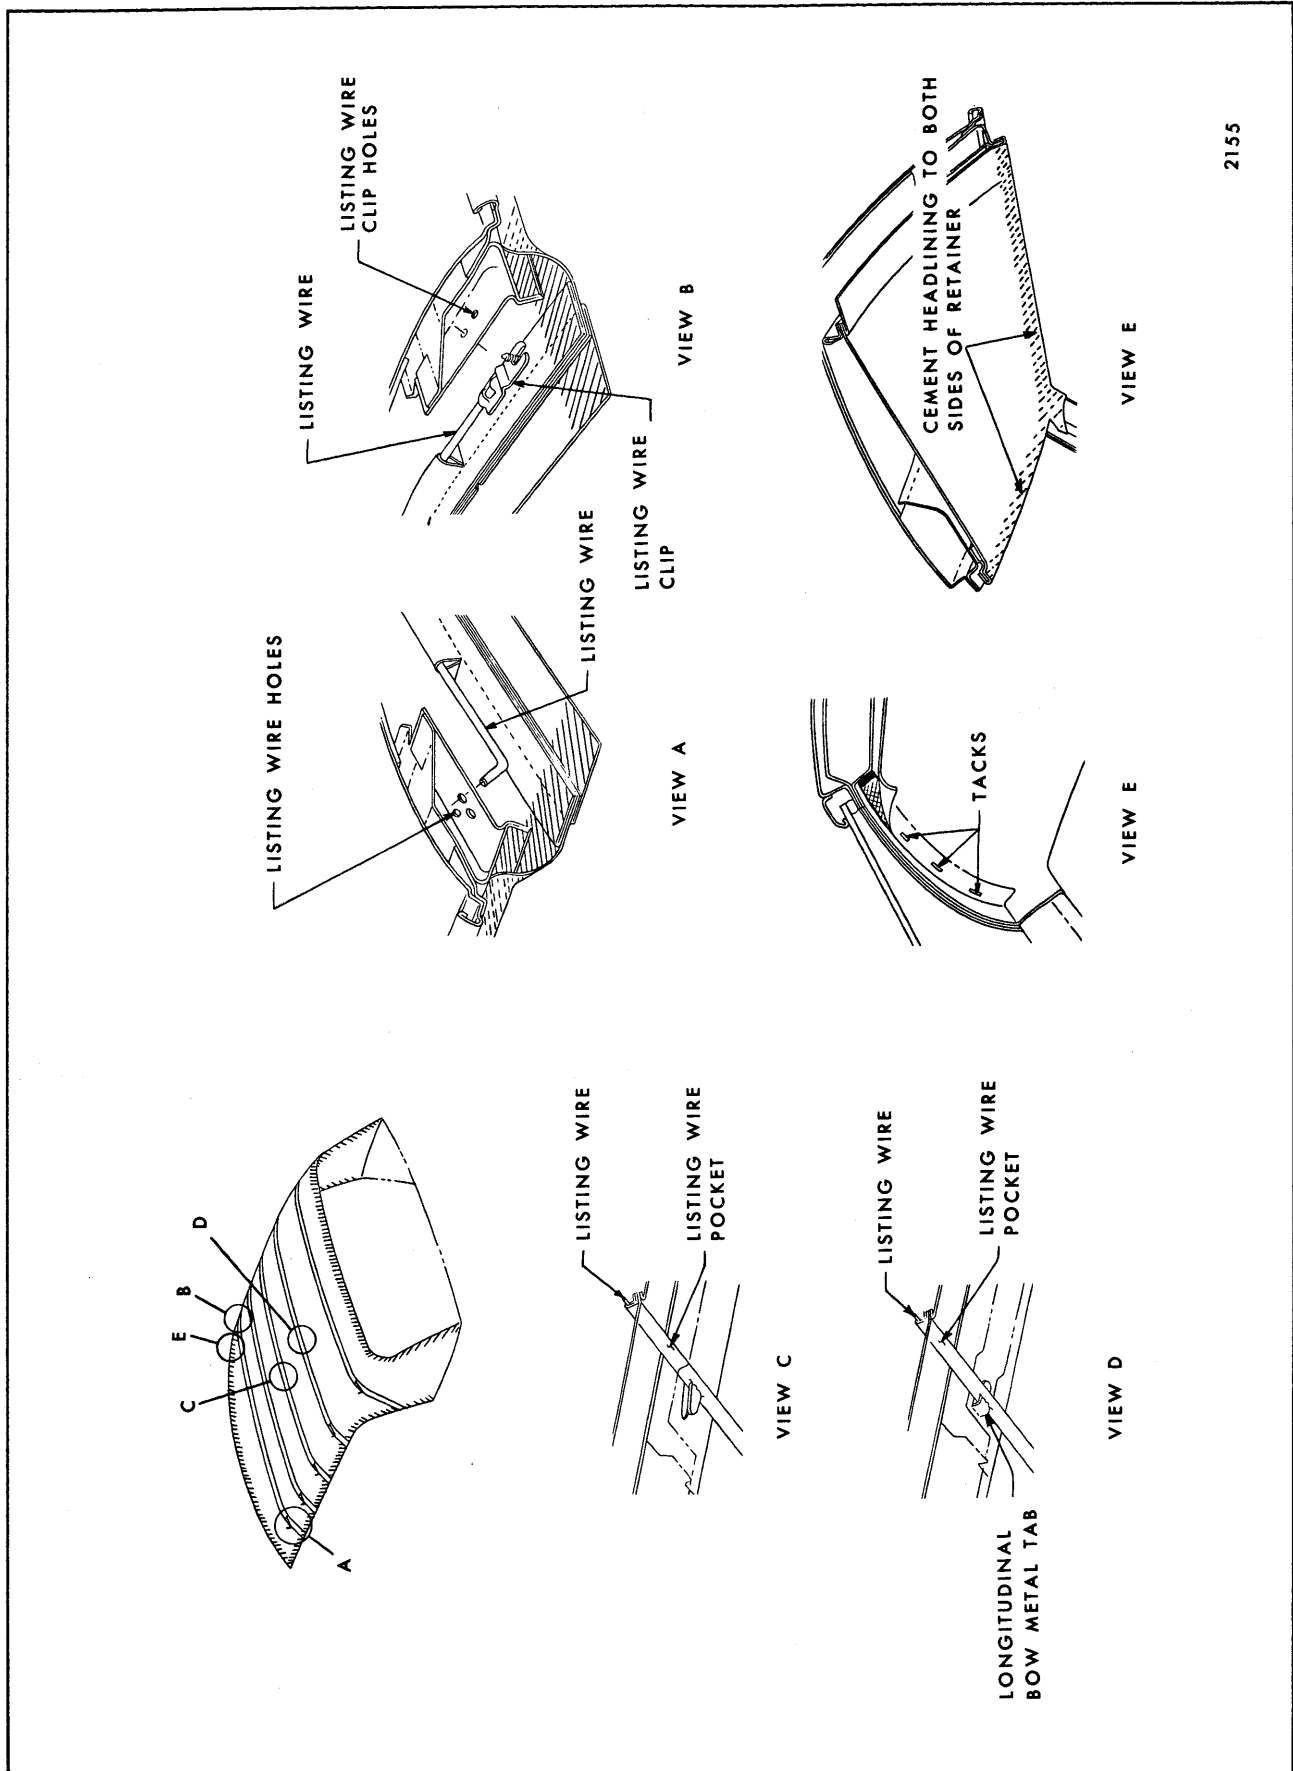
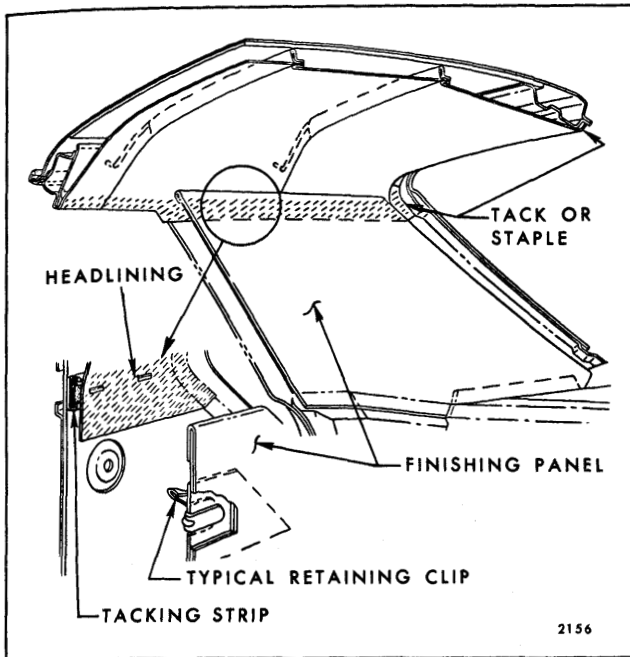
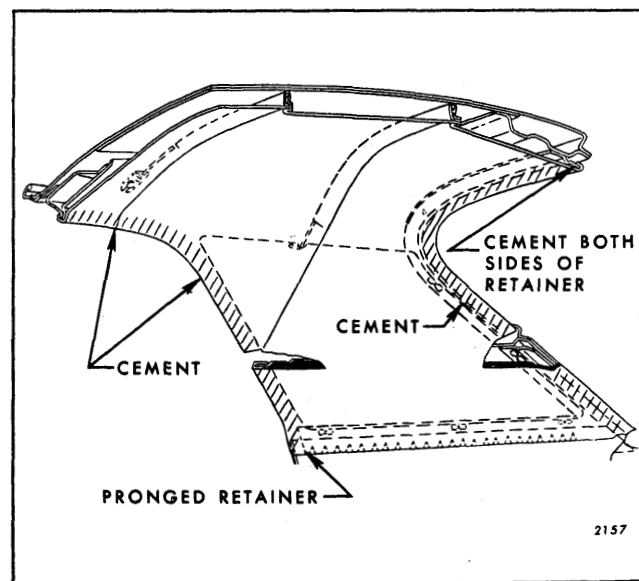

Fig. 4-1—Vinyl and Cloth Headlining Installation
Fig. 4-2—Upper Quarter Trim Installation
Fig. 4-5—Headlining Installation at Roof Extension
Depending upon the body type and style, the listing wires are attached to the side roof rails by either inserting wires directly into holes in side rail or into a clip which is screwed into the side rail. (See View "A" and "B" in Fig. 4-1.)
On all styles except Corvair equipped with a vinyl coated headlining, the listing wires are further attached to the roof panel by tabs on the front to rear longitudinal roof bow. (See View "D" in Fig. 4-1.)
Where garnish moldings are utilized the headlining is tacked or stapled in addition to being cemented at the windshield and back window or back body opening (View "E", Fig. 2155 and Fig. 4-2).
trim stick in the roof extension area (See Fig. 4-2). The upper quarter trim is retained by clips (See Fig. 4-2). On "E" Body Styles the upper quarter trim is further retained by cementing the forward edge to the side roof rail. On styles where the headlining covers the entire roof extension area, the headlining is retained along the rear compartment shelf by a pronged retainer (See Fig. 4-5).
inner rails and supporting tabs on longitudinal (front to rear) bow on styles so equipped (View "D" in Fig. 4-1). In like manner, working from rear of body, disengage listing wires from side roof rails and supporting tabs on longitudinal bow. Exercise care to keep headlining material clean by gathering or folding headlining with listing wires on outside.
7. At No. 3 listing wire, bend down tab securing listing wire (View "C" in Fig. 4-1) and remove headlining assembly from body.
2. Apply approved trim cement to headlining attaching surface at windshield, side roof rail and back window or back body opening. On styles that utilize pinchweld finishing lace be certain cement is applied to both sides of retainer at windshield and back window or back body opening. (View "E", Fig. 4-1 and Fig. 4-5)
3. Lift headlining assembly into body and install No. 3 listing wire and listing wire pocket over metal tab at roof bow (View "C", Fig. 4-1). Bend up tab to secure listing wire to bow. Make certain headlining is centered in body.
cloth headlining) slit listing wire pockets at each tab location on longitudinal bow (approximately 1-1/2" in length). Working rearward from No. 3 listing wire, install listing wires in side roof rails and over tabs on longitudinal bow. In like manner, working forward, install No. 2 and No. 1 listing wires. (View "D", Fig. 4-1)
NOTE: Listing wires may be adjusted up or down by utilizing appropriate holes in side roof rails. Listing wires should rest tight against roof panel after installation. (Views "A" and "B" in Fig. 4-1)